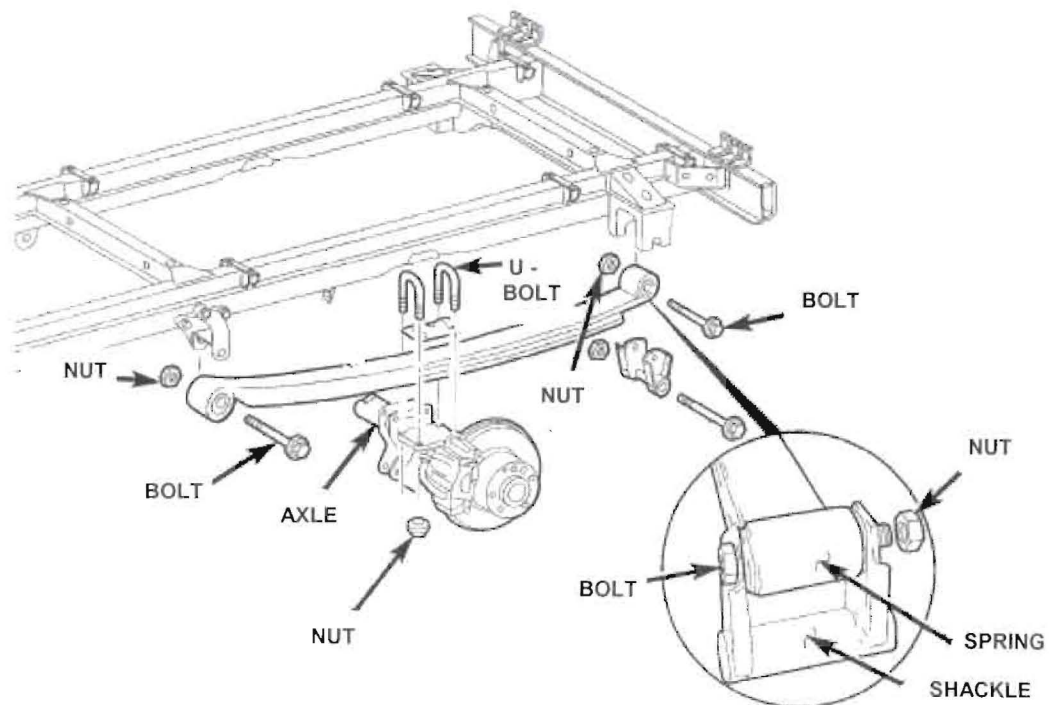

Figure 2
3. Remove the U-bolts and spring plate (Figure 2).
4. Remove the nut and bolt for the spring from the front spring bracket (Figure 2).
5. Remove the nut and bolt from the rear spring shackle bracket (Figure 2).
10. Install the front spring eye nut and bolt through the front spring and bracket (Figure 2). Tighten nut to 70 ft. lbs. (95 N·m).
11. Install the rear spring shackle nut and bolt through the rear spring shackle and bracket (Figure 2). Tighten nut to 63 ft. lbs. (85 N·m).